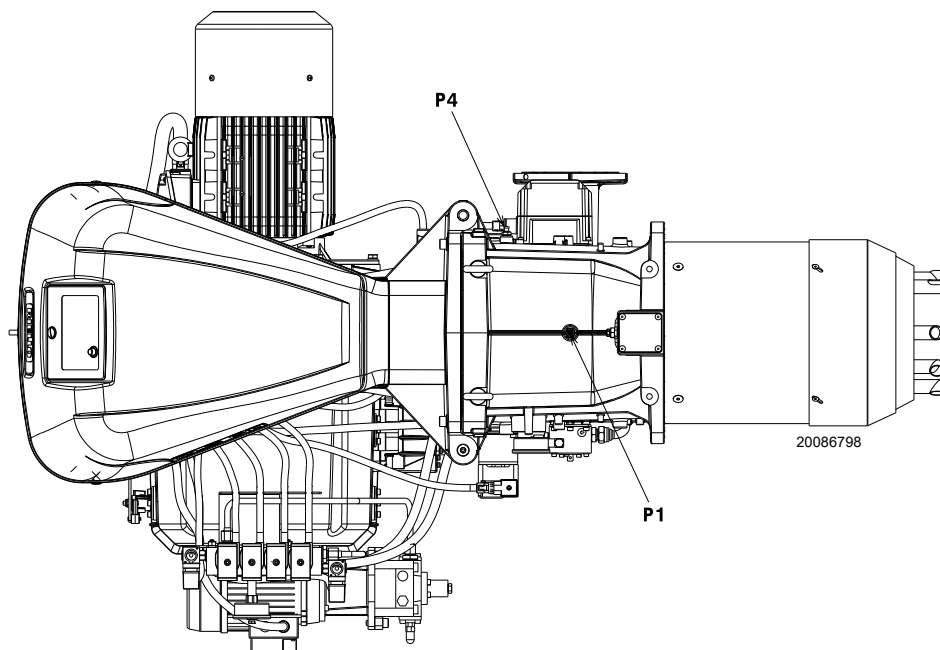

Fig. 31
Gas pressure measured at the test point P1)(Fig. 31), with:
- subtract the combustion chamber pressure from the gas pressure measured at test point P1)(Fig. 31).
Gas pressure at test point P1)(Fig. 31) = 29,4 mbar
To calculate the required gas pressure at test point P1)(Fig. 31), set the MAX output required from the burner operation:
- Read, on the right (column 1), the pressure at the test point P1)(Fig. 31).
Pressure required at test point P1)(Fig. 31).